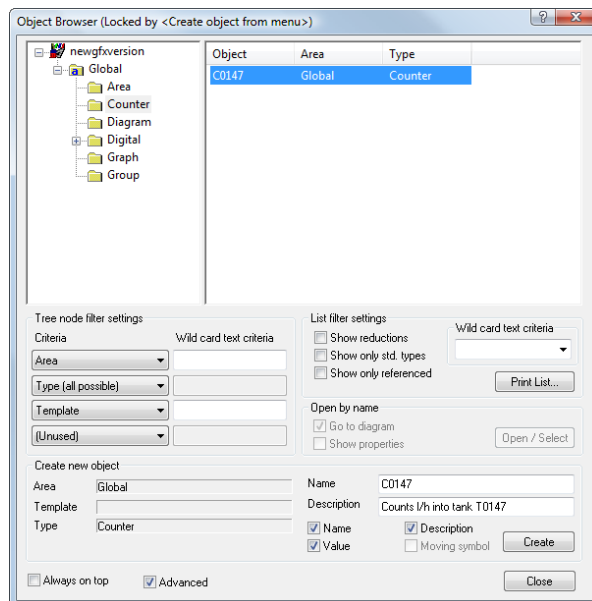

Figure 3.87 The usual **Object Browser** dialog box appears when we correct a command button to represent an IGSS object.
- Click the **Test expression** button to test that the expression is correct. Figure 3.87 shows the dialog box from testing a correct expression.